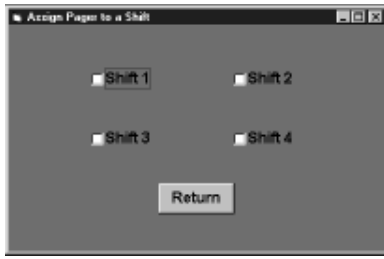

Figure 33: Assign Pager to a Shift
9. Refer to *Figure 33* for the ASSIGNPAGER TO A SHIFT menu that will appear.